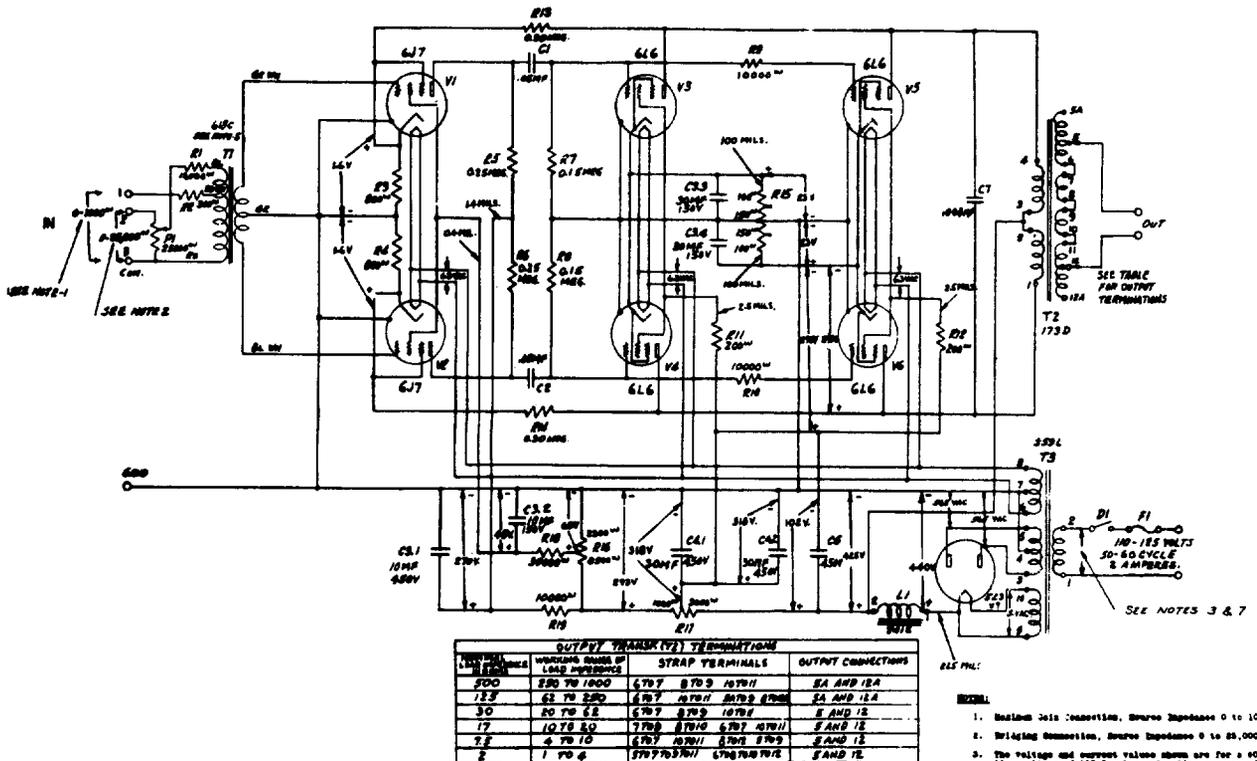

Fig. 2 - Schematic of 118A Amplifier
3.06 If the procedures outlined above fail to clear the trouble it will be necessary to make a thorough electrical check of the operating voltages and currents. The benefits derived from an orderly procedure in making these tests cannot be over-emphasized. Fig. 2 is a schematic drawing of the amplifier circuit showing the voltages and currents in various parts of the circuit. The following suggested procedure will facilitate the voltage testing.
3.07 Many of the voltages indicated on Fig. 2 are between the various circuit elements and ground. Since these are most readily obtained it is suggested that all of the voltages to ground be measured beginning at the output of the power rectifier tube and working through the circuit to the elements of the several tubes. The data thus obtained should provide an indication of the location of any trouble in the power supply and voltage distribution circuits of the amplifier.